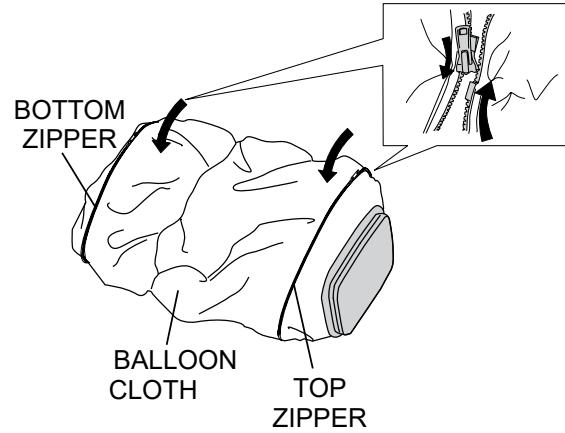

Figure 36. Zipping the Balloon Cloth
4. Zip up the zipper (Figure 36) at the top and bottom of the balloon cloth.